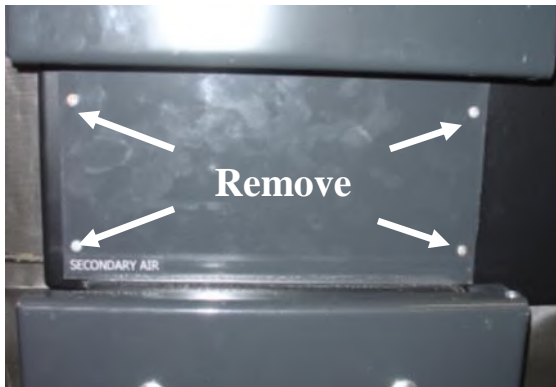

Fig. 4.10 Air Distribution Cover
1. Remove the cover to the air distribution box which is located between the loading and ash doors (**Fig.4.10**). This is performed by removing the 4 corner nuts and carefully breaking the silicone seal on bottom of diffuser.